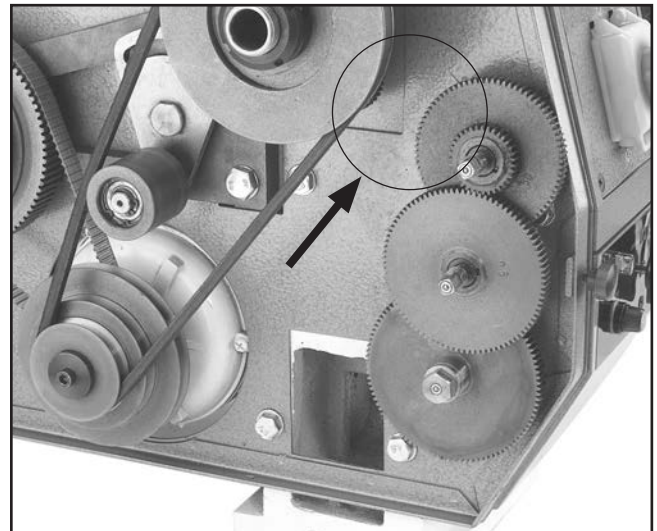

Figure 42. Gear bracket pivoted away.
7. Pivot the gear bracket away from the drive gear as shown in **Figure 42**.